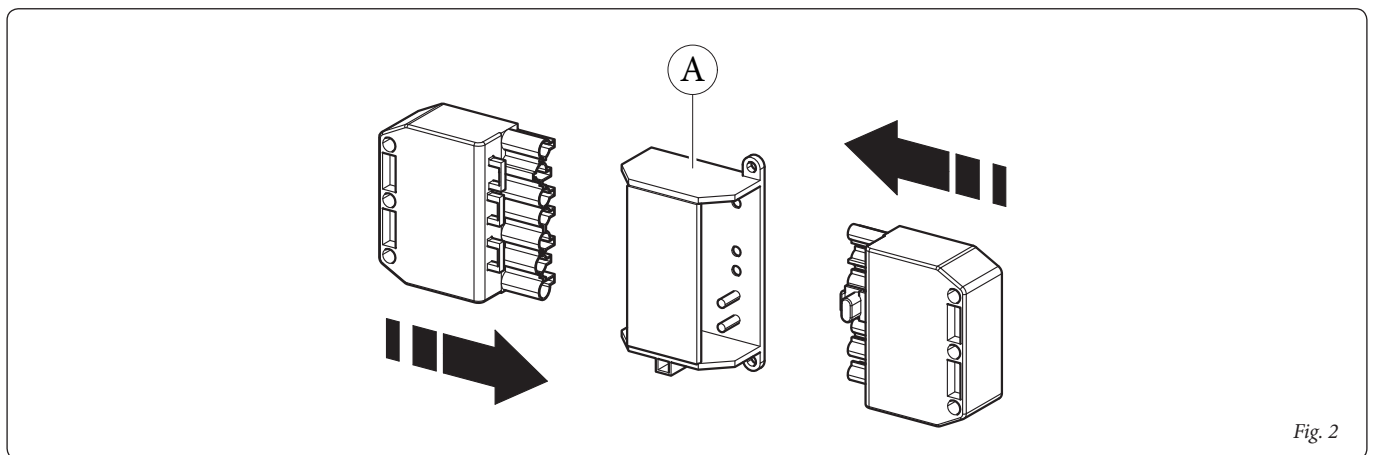

Fig. 2
- Montare la copertura supplementare (Fig. 2 pos. A) (fornita nel kit) dopo aver collegato le spine (Fig. 6 pos. 7).
- Assemble the supplementary covering (Fig. 2 pos. A) (supplied in the kit) after plugs (Fig. 6 pos. 7) have been connected.